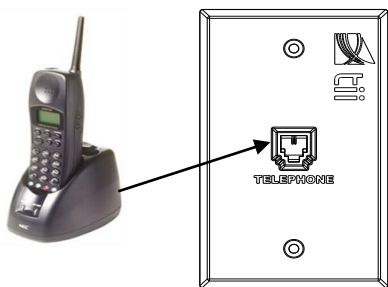

Figure 3
8. Connect the existing phone into the RJ-11 receptacle on the front face plate (See Figure 3).